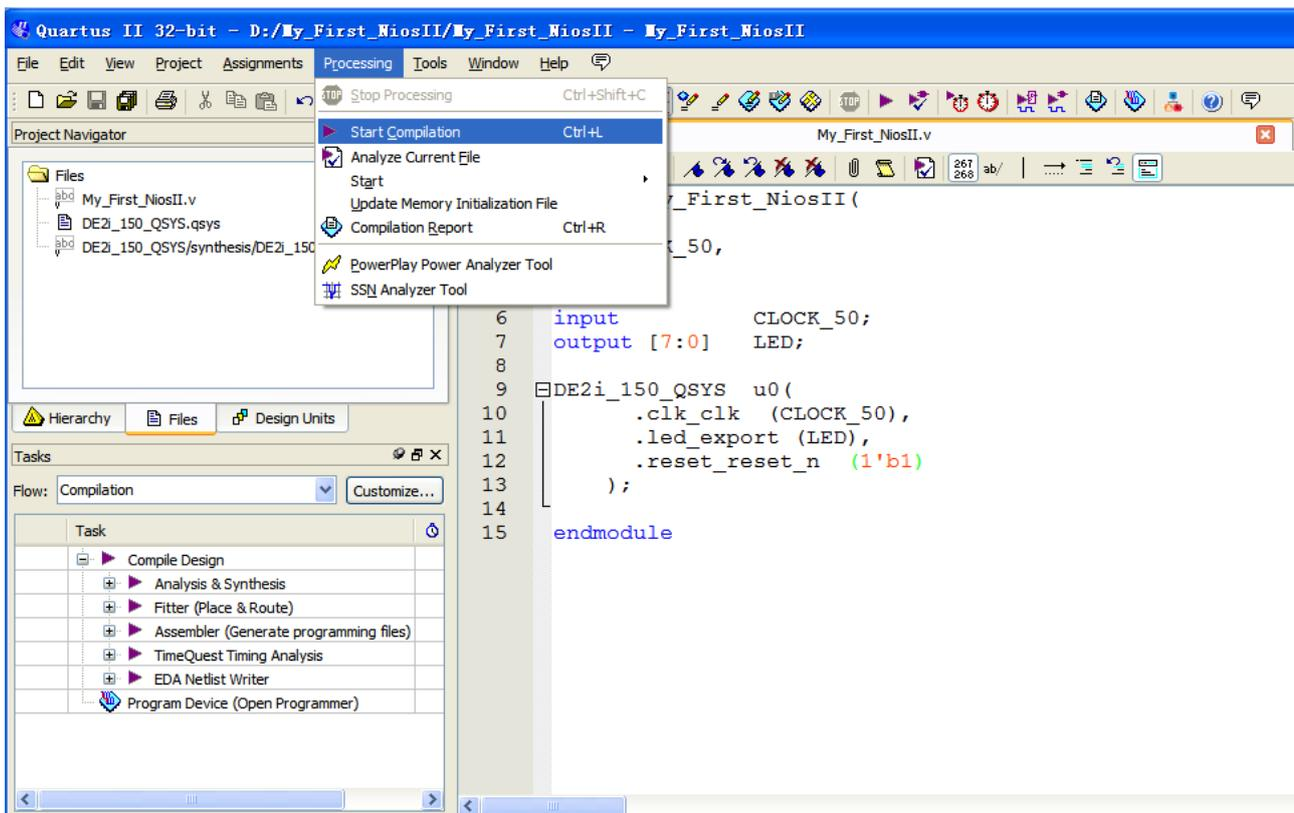
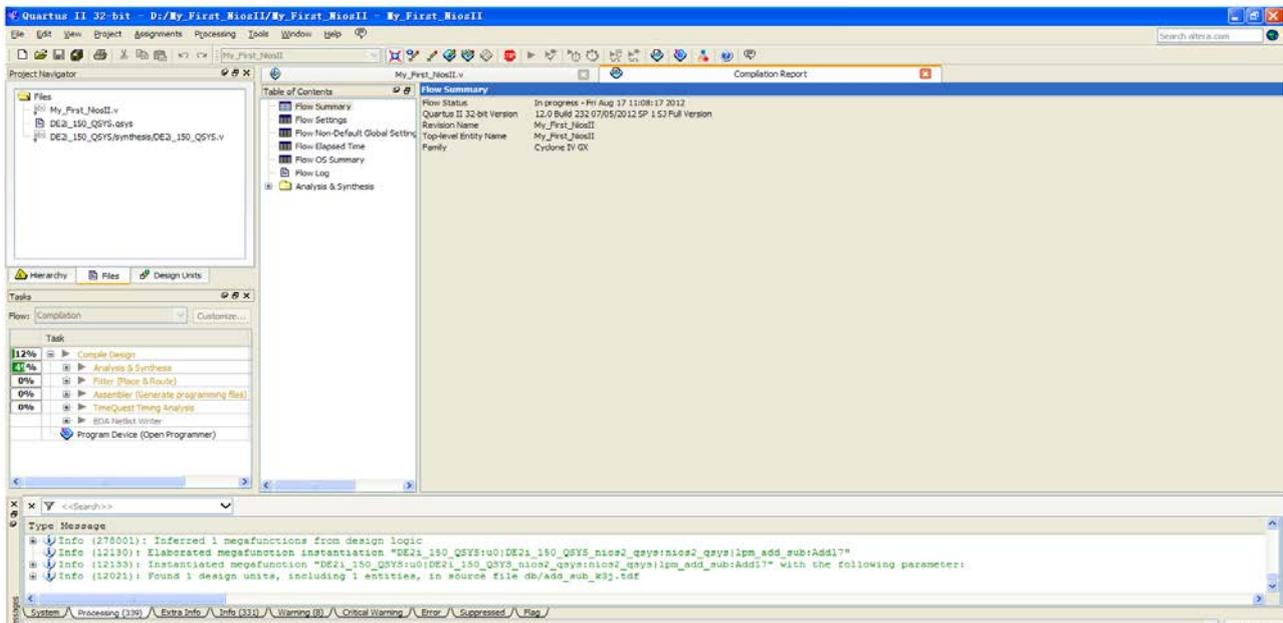

Figure 1-62 Start Compilation
Figure 1-63 Execute Compilation
37. Choose **Processing** > **Start Compilation** as shown in Figure 1-62. Figure 1-63 shows the compilation process.